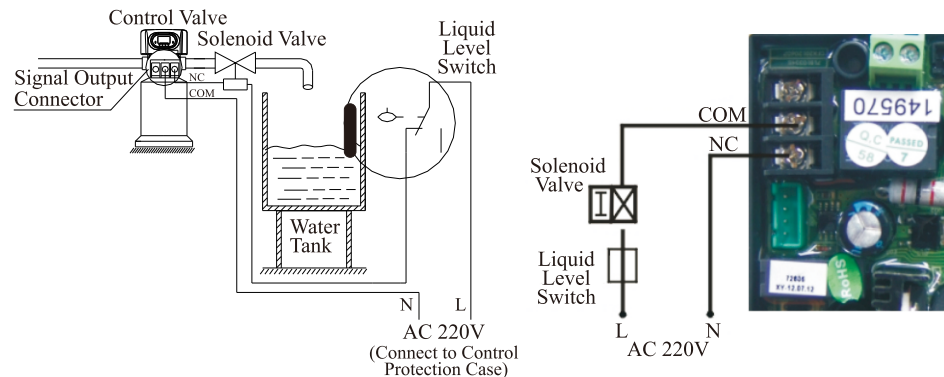

Figure 8 Wring of Solenoid Valve on Outlet
①Solenoid Valve on Outlet Controls Water Level in Brine Tank.
**Instruction:** If system requires no hard water flowing from outlet in regeneration cycle (Mainly for no hard water flows out when valve is switching or valve in backwash or brine drawing positions), a solenoid valve could be installed on outlet, the wiring refer to Figure 8.